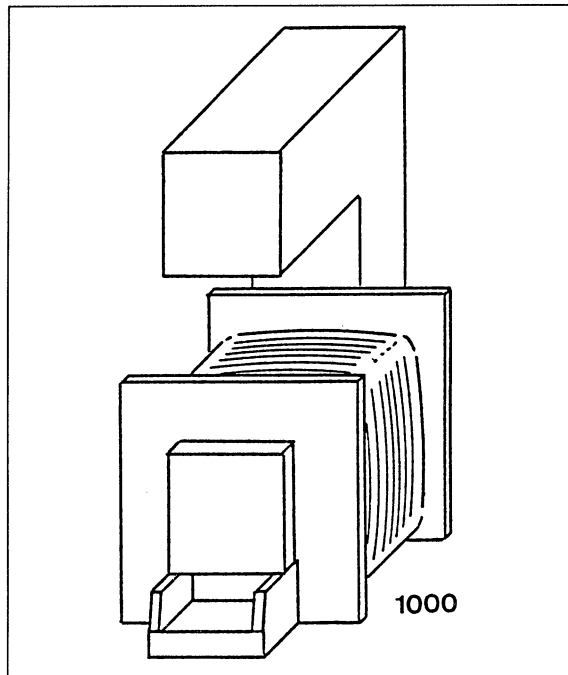

Fig. 2 Coil with U-core (vertical arrangement)
6. Slide the U-core into the coil as shown in Fig. 2. Measure U and I and write down the values. ► table 1, b)
14. Slide the U-core into the coil as shown in Fig. 2. Measure U and I and write down the values. ► table 2, b)